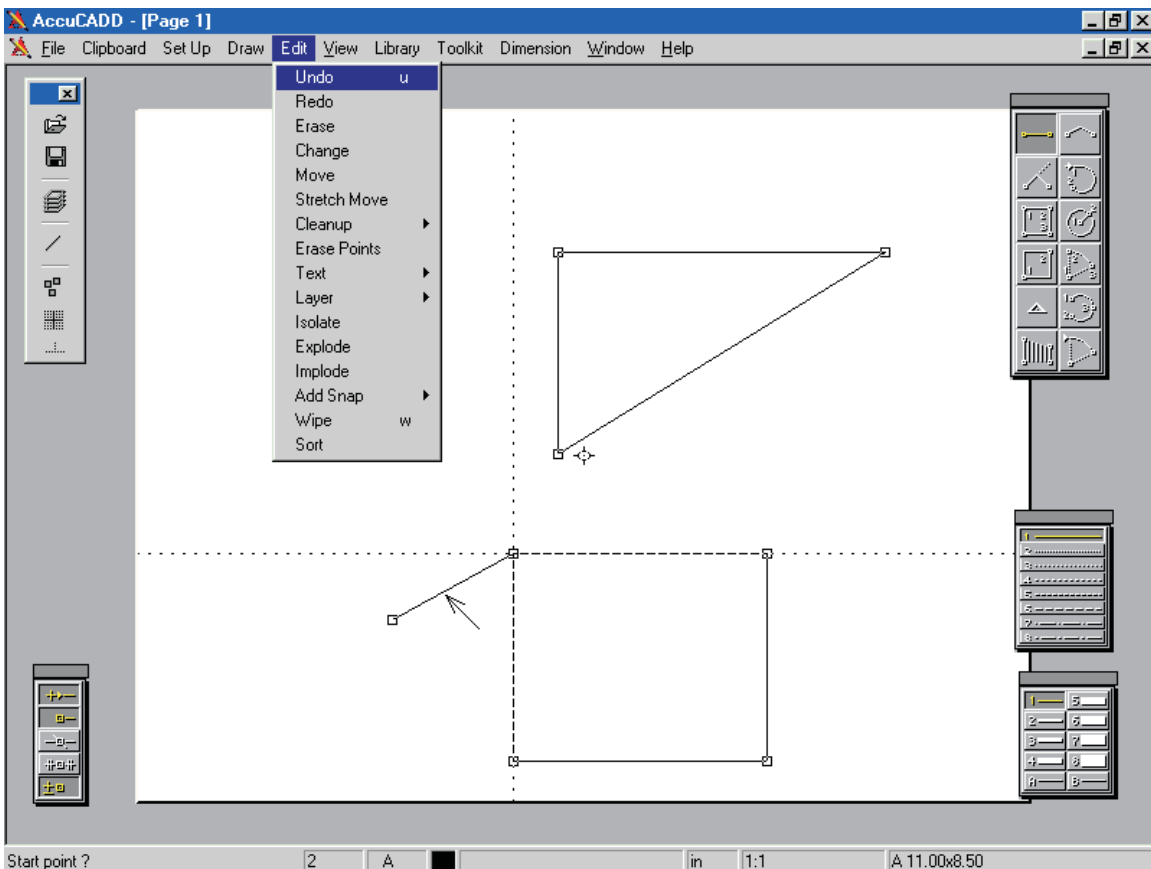

Figure 6: Modifying the drawing using Edit functions
□ Draw a line 3.1875" to the right, then complete the rectangle, as Figure 6, using “magnetic points”. Just touch one line-end, and then the other.
☐ Steer the cursor to any corner of the drawing. Snap it into place, then draw a line - any line - from there to some other point on the screen (arrowed in Figure 6).
☐ Select the Edit menu, as in Figure 6. Select Undo, and the line disappears.